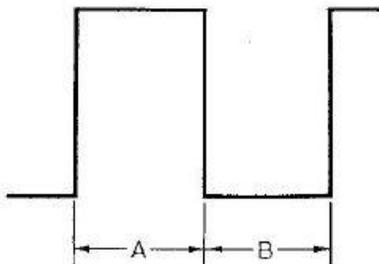

Fig. 16 Adjustment of Duty Ratio
- (1) Place WAVE FORM switch (6) in position  $\square$ .
- (2) Connect an oscilloscope to output terminals.
- (3) Adjust VR2 until the square wave form appearing on the oscilloscope screen provide the same durations for its half cycles A and B shown in Fig. 16.